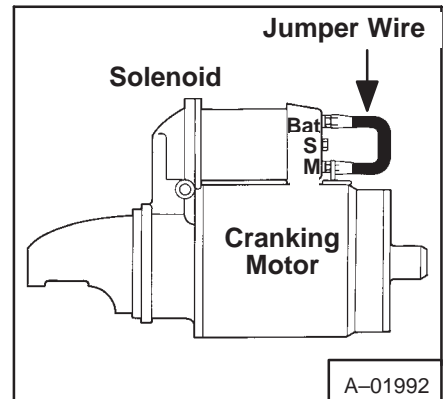

Fig. 6-13 Checking Operation
3. Connect the jumper from the *Batt* connection on solenoid to the *M* terminal on starter (Fig. 6-13). If the starter will turn rapidly, the defect is in the solenoid. If starter does not turn, the defect is in the starter.